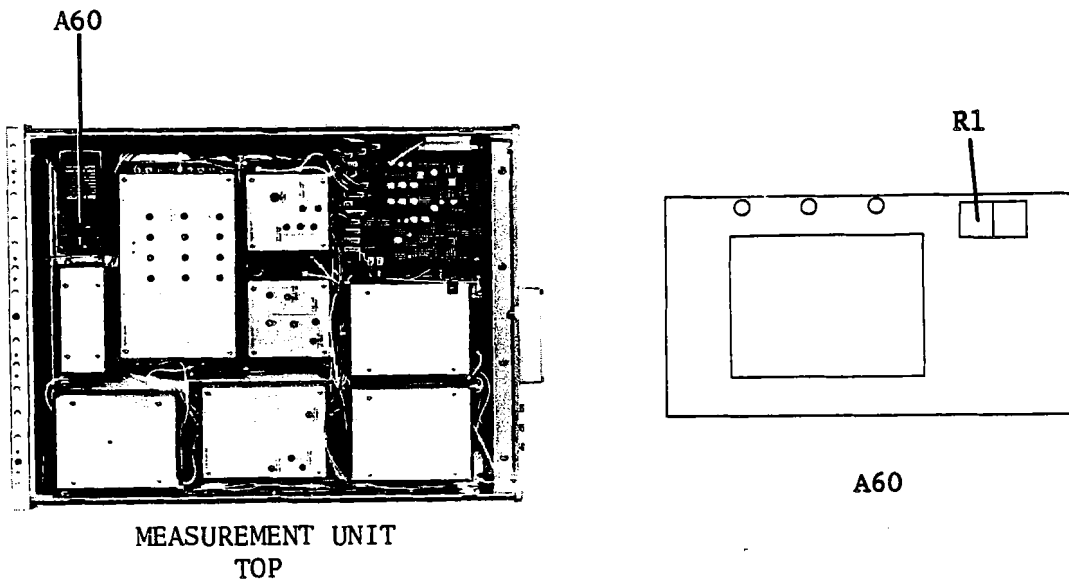

Figure 3-9. High Stability Oscillator Frequency Adjustment Location
3. Adjust A60R1 (F-ADJ) until the Frequency Counter reads 10 MHz  $\pm$  1Hz. See Figure 3-9 for A60R1's location.